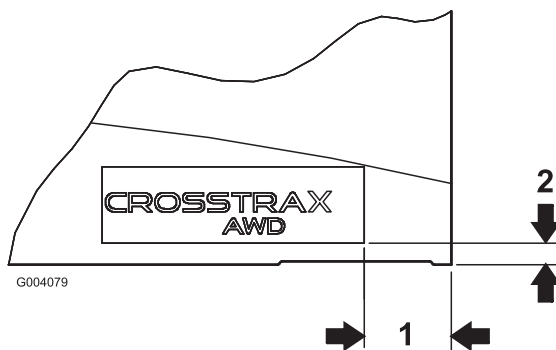

Figure 15
2. Using the dimensions shown in Figure 15, locate and affix a CROSSTRAX decal to the lower rear corner of each side of the hood.